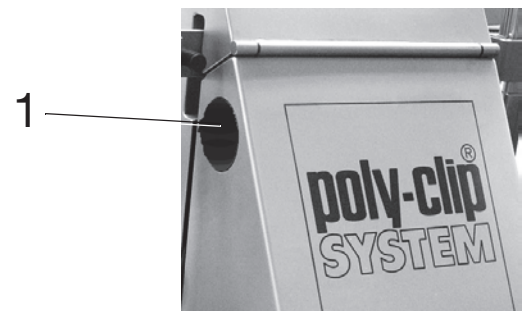

Fig. 4-18 1 Two-hand button (two-hand operation)
- Swing machine in Press and hold the manual function button and the two-hand button (Fig. 4-18) simultaneously within 0.5 seconds until the machine has moved fully into the working position.
- Swing machine out Press and hold the manual function button and the two-hand button (Fig. 4-18) simultaneously within 0.5 seconds until the machine has moved fully into the end position.
- Jog mode forwards <ul style="list-style-type: none"> <li>Only the protective shutter at the separator area may be open.</li> <li>From the Supervisor menu level</li> <li>Run machine forwards at slow speed: Press the manual function button and the two-hand button (Fig. 4-18) simultaneously. The machine stops immediately when one of the buttons is released.</li> </ul>
- Jog mode backwards <ul style="list-style-type: none"> <li>Only the protective shutter at the separator area may be open</li> <li>From the Supervisor menu level</li> <li>Run machine backwards at slow speed: Press the manual function button and the two-hand button (Fig. 4-18) simultaneously. The machine stops immediately when one of the buttons is released.</li> </ul>
- Rotate twin turret <ul style="list-style-type: none"> <li>Only possible in swung out state.</li> <li>Rotate twin turret: Press and hold the manual function button and the two-hand button (Fig. 4-18) simultaneously within 0.5 seconds until the next stuffing horn is in the stuffing position.</li> </ul>